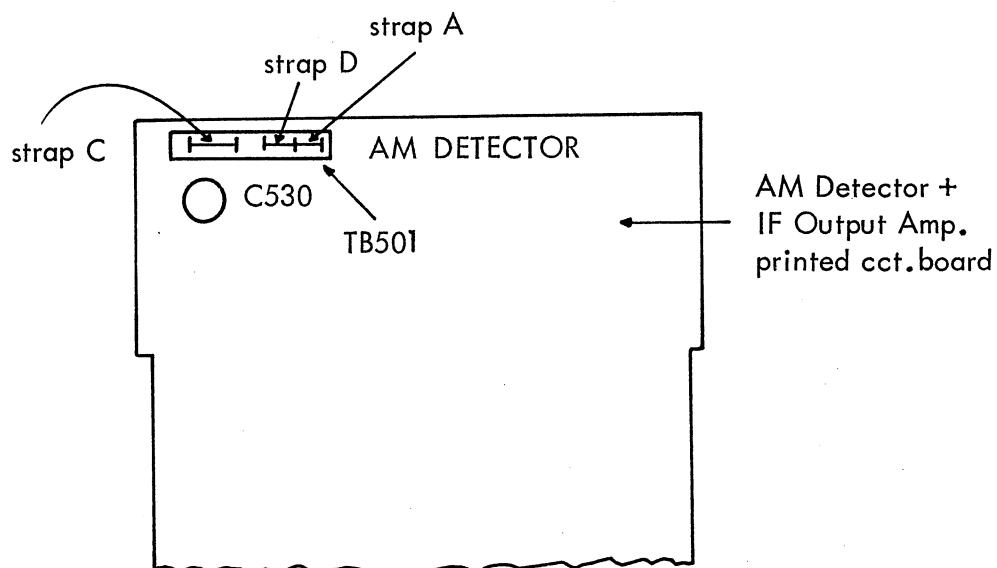

Fig.G3.
- 86) Replace the strap A and disconnect the straps C and D (shown in Fig.G3) on the AM DETECTOR printed circuit board.